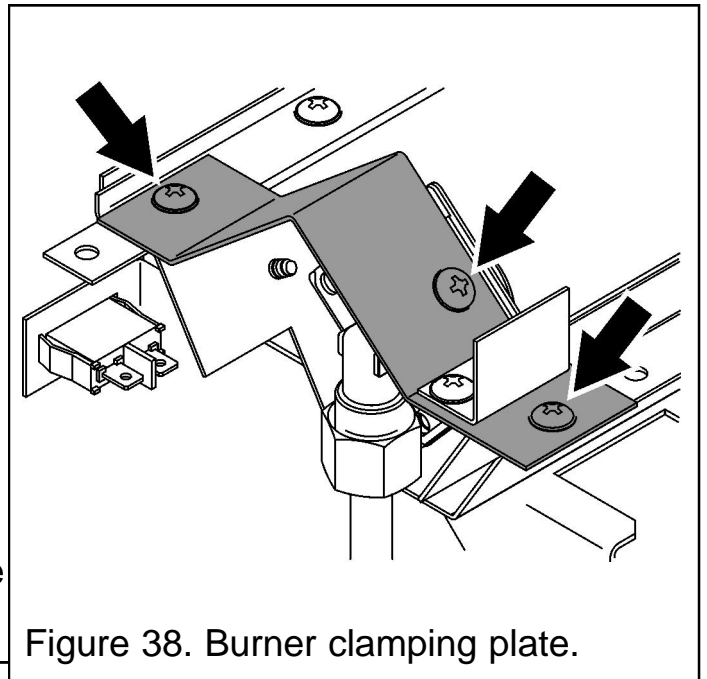

Figure 38. Burner clamping plate.
2. Unscrew and remove the burner clamping plate from the upper right hand side of the burner. Remove all three screws for ease (See figure 38).